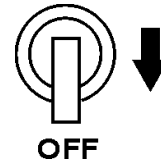

Figure 30. Auxiliary Circuit Breakers (OFF)
- Place auxiliary circuit breakers (Figure 30) in the **OFF** position.